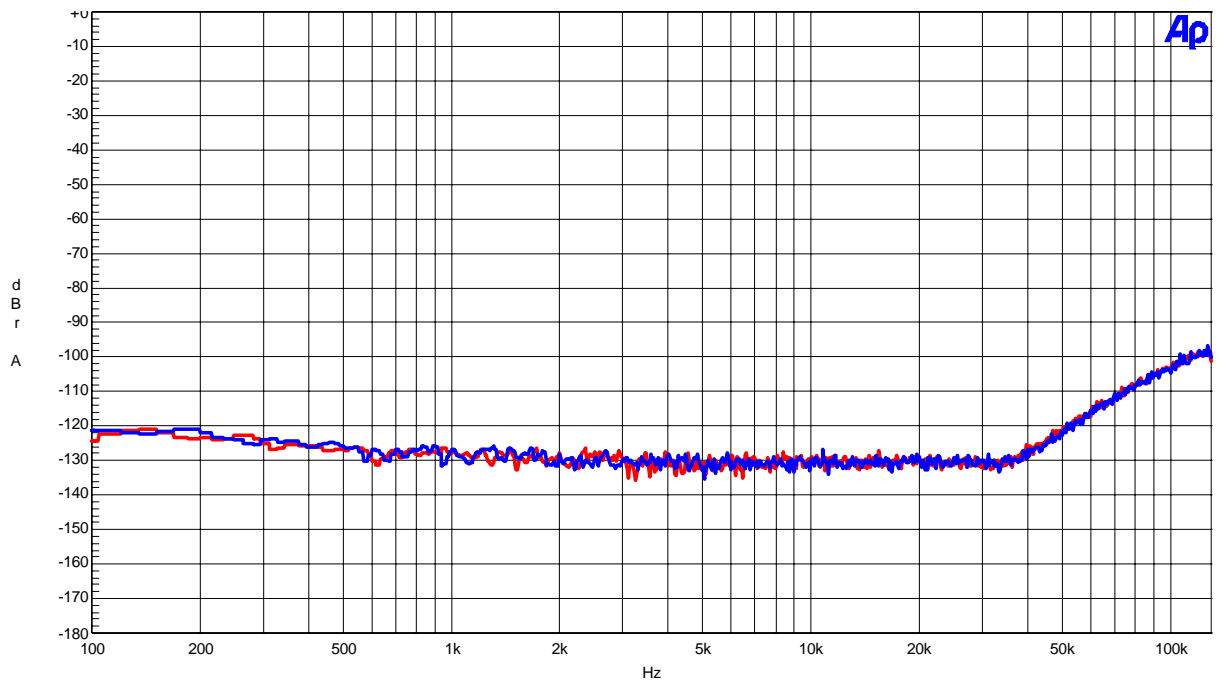

Figure 31. FFT(out-of-band noise)
- Figure 31. FFT (out-of-band noise)